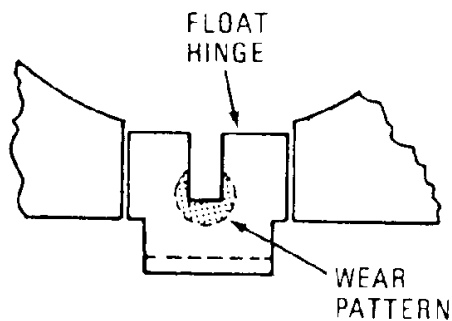
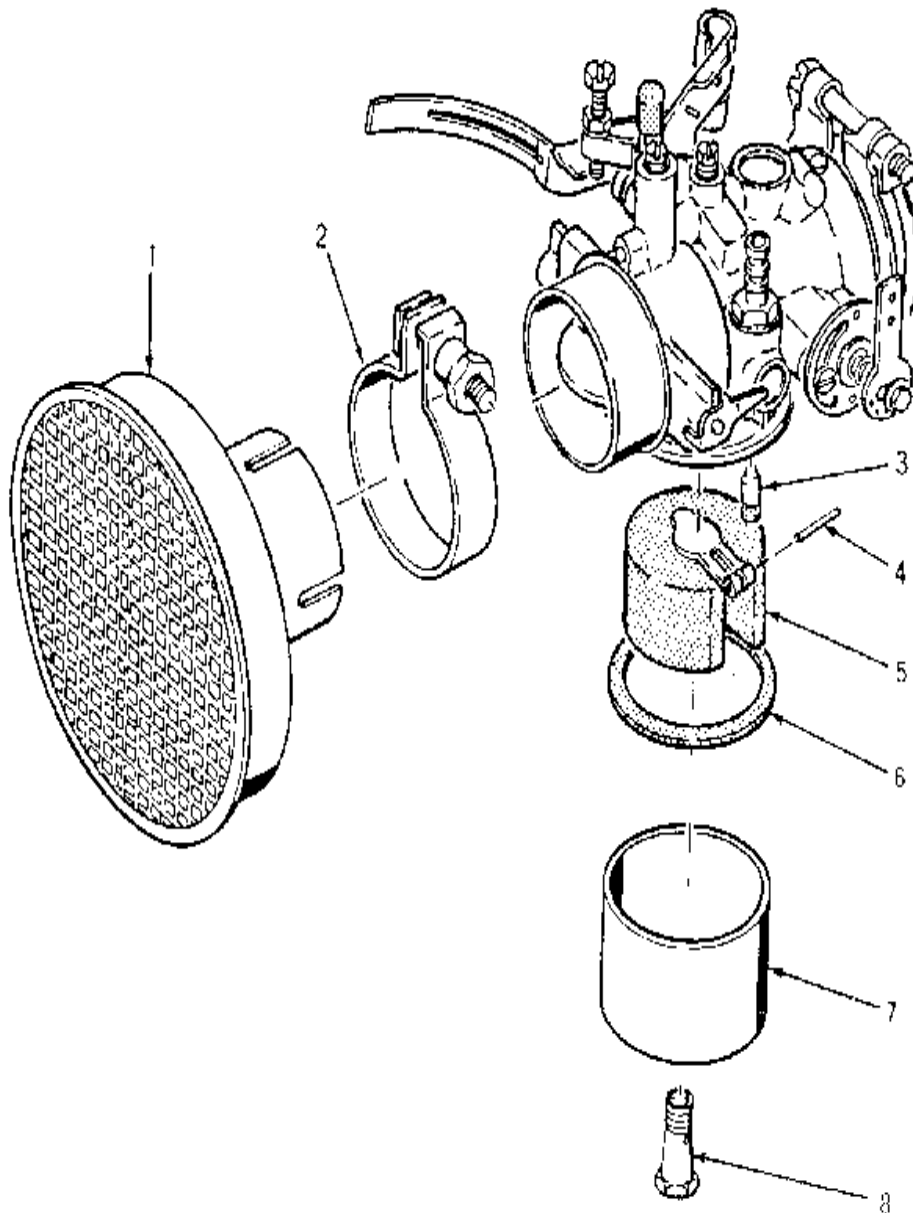

Figure 9, Float Wear Pattern
Figure 11, Carburetor
Step 9: Repair carburetor. (Figure 11)
- a. Remove jet (8), float bowl (7), and gasket (6) from carburetor.
- b. Holding carburetor upside down, remove hinge pin (4) from float (5).
- c. Remove float (5) and float needle (3).
- Position float (5) so that brass hinge groove is facing up. Compare float wear pattern with illustration. (See Figure 9) If float wear is found in circled area, replace float.